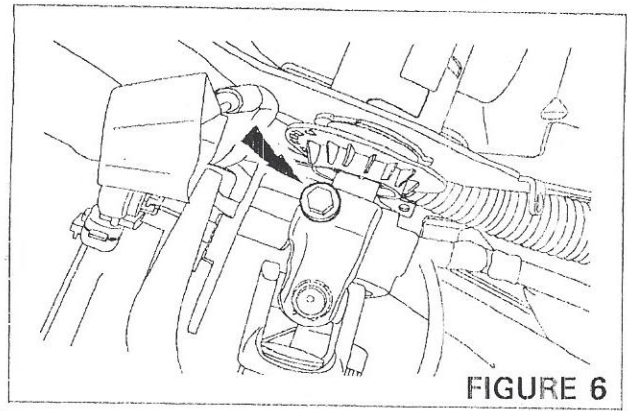

FIGURE 6
2. Remove and discard the upper steering column shaft-to-steering column bolt (Figure 6). There is "no" bolt provided in this A/C kit, must be acquired by A/C installer.